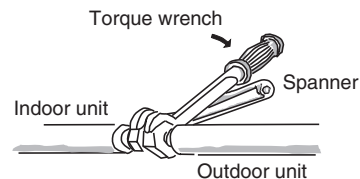

Fig. 5-6
- (2) To fasten the flare nuts, apply specified torque.
- When removing the flare nuts from the tubing connections, or when tightening them after connecting the tubing, be sure to use a spanner and a torque wrench. (Fig. 5-6)